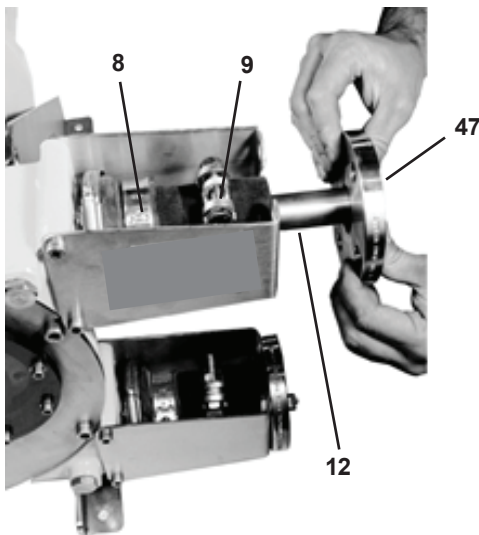

Figure 1
3. Loosen clamps (8) and (9) at the suction inlet. Remove insert (12) and flange (47) See Figure 1.